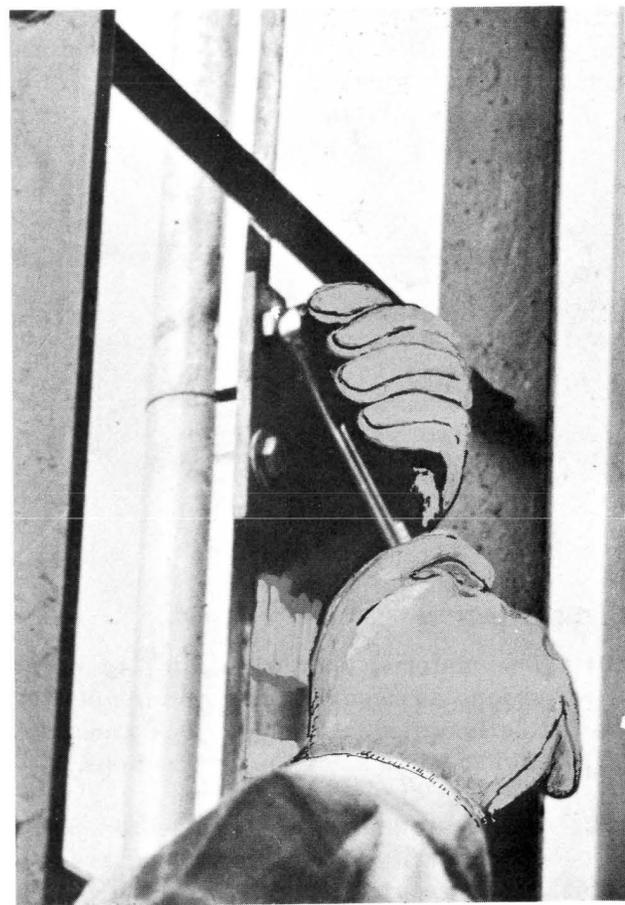

Fig. 8
3.08 Swing the connecting strap around, with the slotted hole toward the top, and tighten the cap screw to secure the sleeve in place. The cap screw must extend through the bottom hole in the alignment sleeve. (See Fig. 8.) A schematic view of the completed union is shown in Fig. 9.